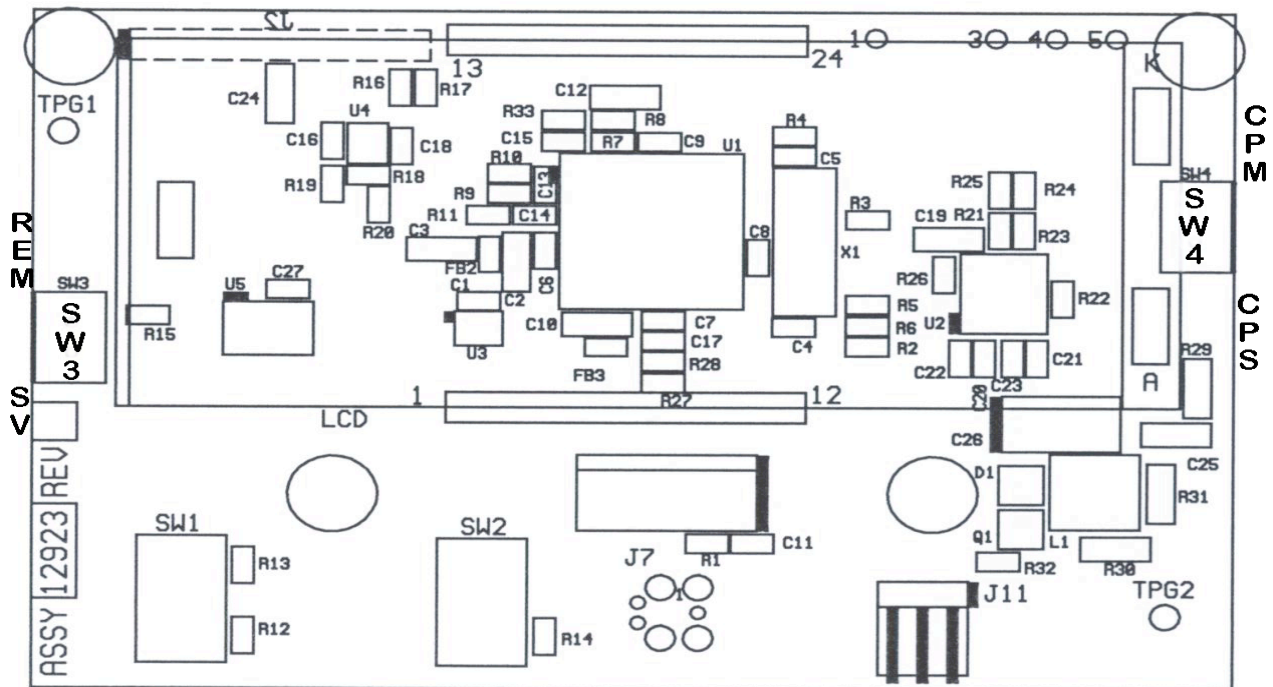

FIGURE 4
- 5.1.1** The DSM-502 HIGH VOLTAGE and GAIN are adjusted to the operating characteristics of the probe supplied with the meter. The GAIN (input sensitivity) is adjusted to 0.050 v-pp with an input sensitivity of 0.050 v p-p. These high voltage and gain settings are satisfactory for operation with the many probes but can produce large errors if the DSM-502 is not calibrated with the internal probe. Refer to the MAINTENANCE SECTION 6.2 for High Voltage adjustment procedure and SECTION 6.3, 6.4 for the calibration of the system. Be sure the R/Sv and the CPM/CPS switch has be set to the proper units before calibrating the system. Figure 4 shows the location of the switch on the LCD pc board.
- 5.2.4** The LCD READOUT can display the probe signals in CPM, COUNTS, ROETGEN AND SEIVERTS. When calibrating the system the decision to operate in CPM or CPS and ROETGEN OR SEIVERTS MUST BE MADE AND THE APPROPORIATE SWITCHES ADJUSTED BEFORE THE SYSTEM IS CALIBRATED. FIGURE 4 SHOWS THE LOCATION OF THE R/Sv SWITCH AND THE CPM/CPS SWITCH.